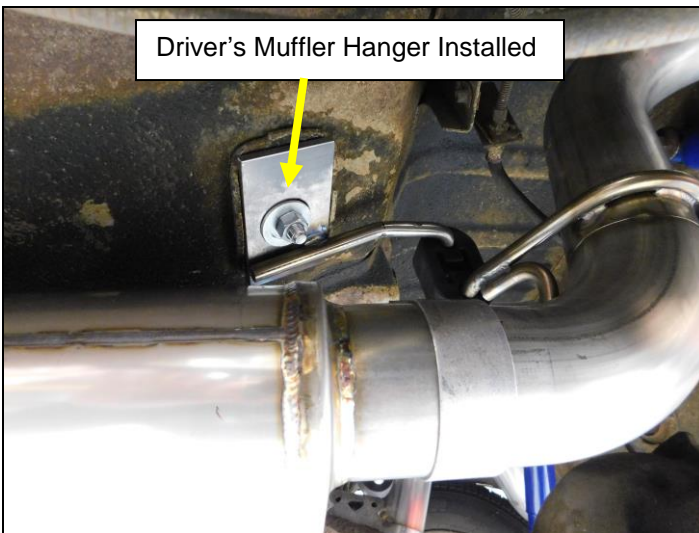

Figure 8
11. Install muffler hanger rod assemblies on to the 7/16-20 bolt at the seat belt anchor installed previously (**Figures 8 & 9**).
12. Install the hanger assemblies with the both hanger rods facing to the passenger's side of the car. Install the 7/16 Lock nut and tighten (**Figures 8 & 9**).
16. Install the over-axle pipes with the short pipe into the muffler and the hanger rods facing inward (**Figures 8 & 9**).